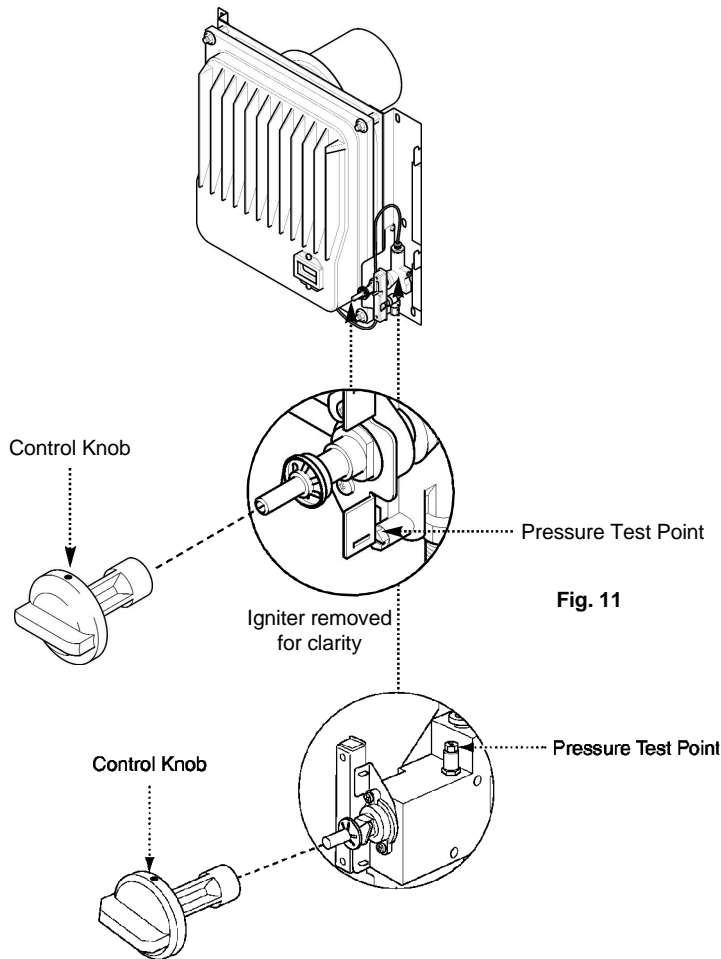

Fig. 11
2. Fit the control knob onto the control tap spindle (Fig. 11).
4. Remove the pressure test point screw. Fit a pressure gauge to the pressure test point (Fig. 11).
2. Remove the knob from the appliance by gently pulling the knob forward (Fig. 11).